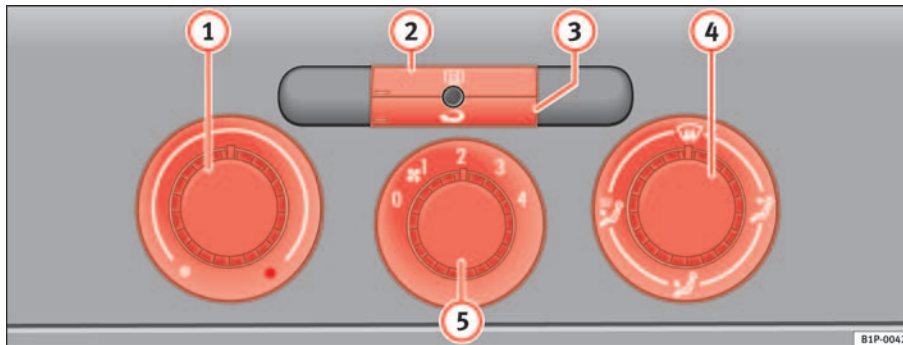

Fig. 103 On the dash panel: Heater controls
- Using the controls ⇒ fig. 103 ①, ④ and ⑤ you can set the temperature, air distribution and the air flow.
- To switch a function on or off, press the appropriate button ② or ③. When the function is activated, the display window in the lower left of the button is lit.